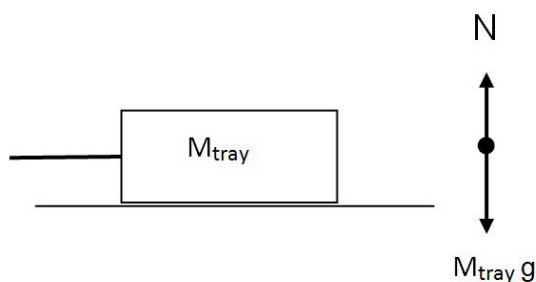

Figure 5: Normal Force
1. Figure 5 shows the forces on the tray perpendicular to the track for this experiment. State at least two examples where Eqn. (4) would not be valid.